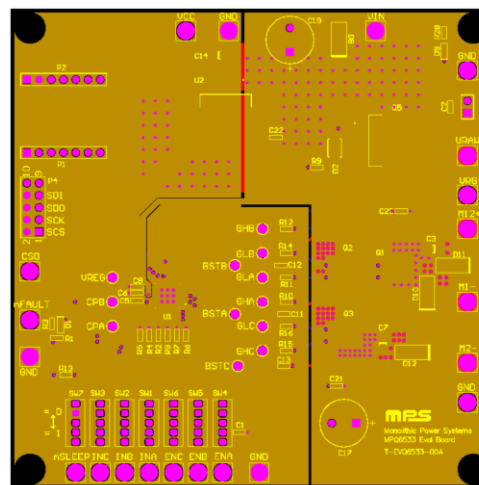
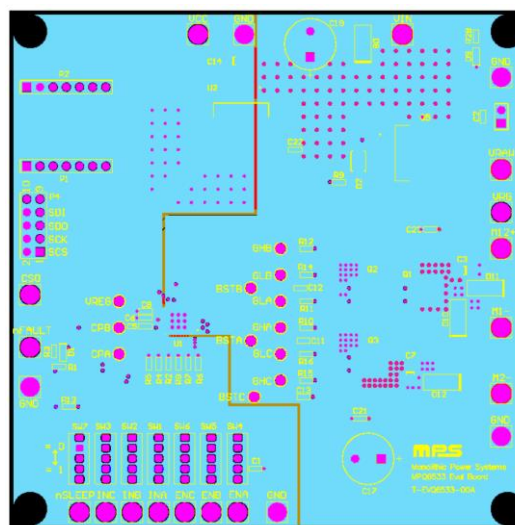

Figure 10: Recommended PCB Layout with a Power Plane
Figure 11: Recommended PCB Layout with a Power Plane
A second example for the PCB layout uses a power plane. Four layers are used to provide solid planes for the ground and supply voltage. For the best results, refer to Figure 10 and Figure 11, and follow the guidelines below:
1. Route VIN on the right portion of the plane, and connect it to the MOSFET's input power and bulk capacitors (C17 and C19). The left portion of the plane is used as a redundant ground plane (see Figure 10).
3. Route the MOSFETs away from the rest of the circuitry. The two planes meet underneath the MPQ6533 (see Figure 11).